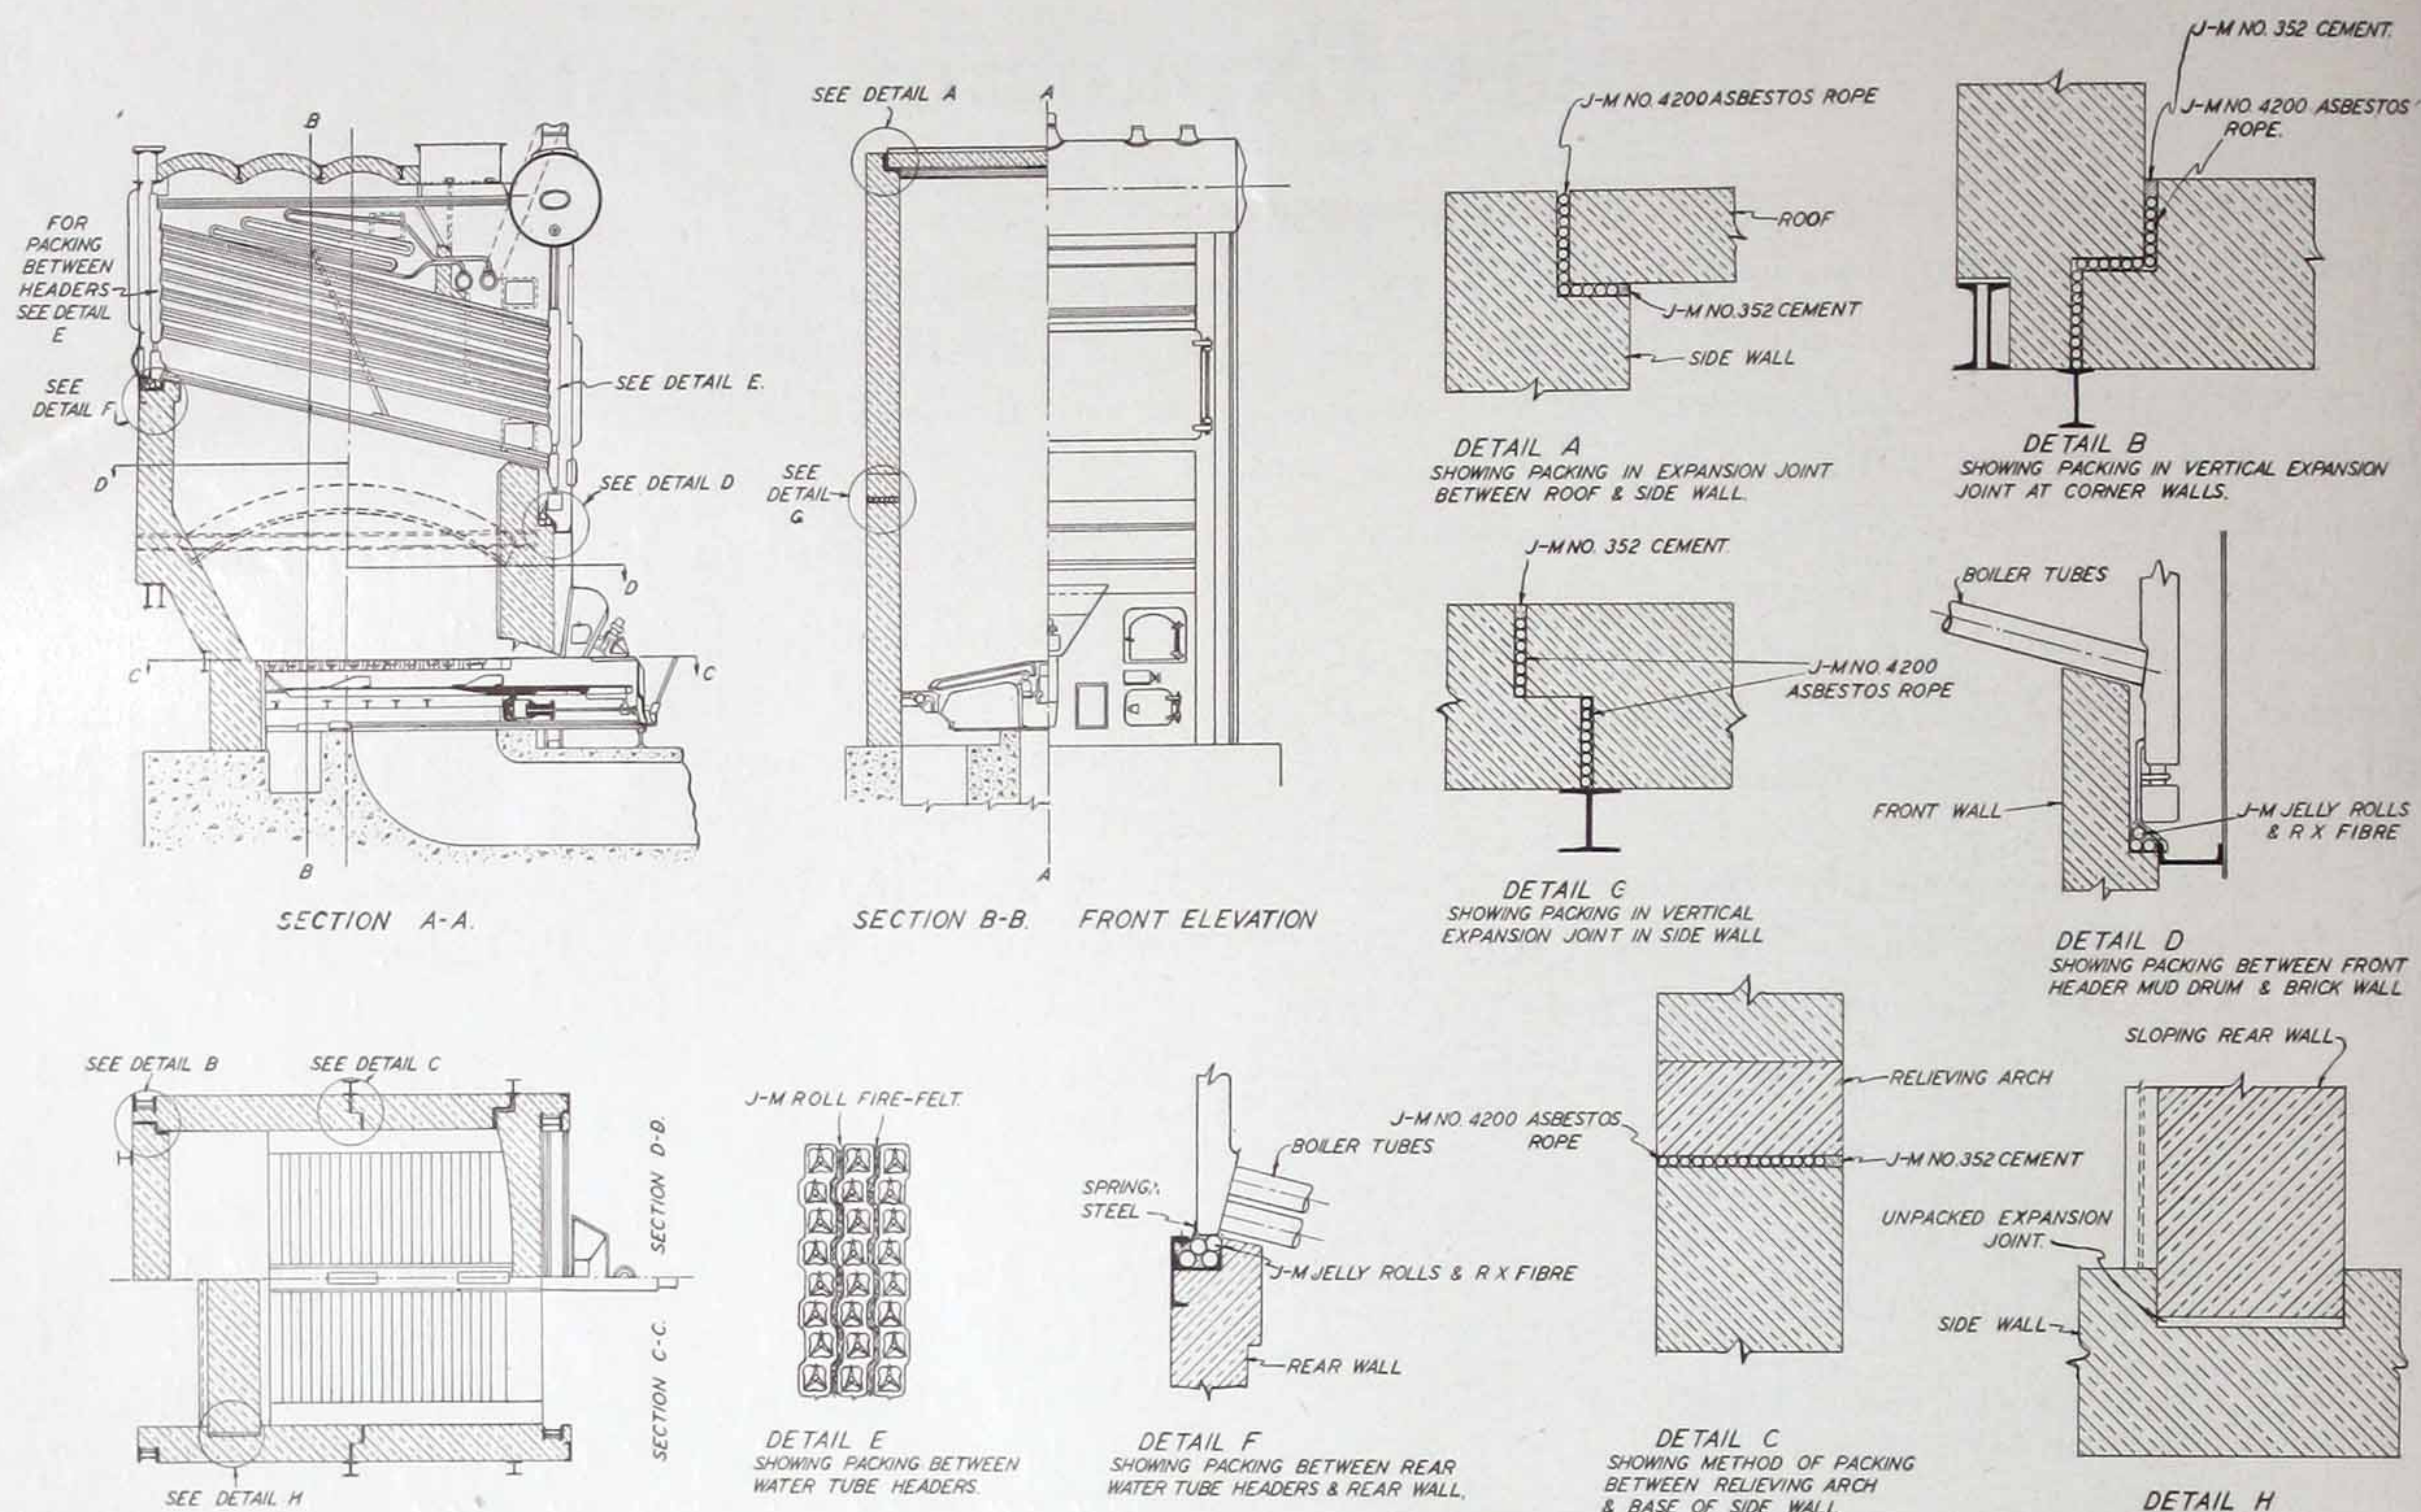
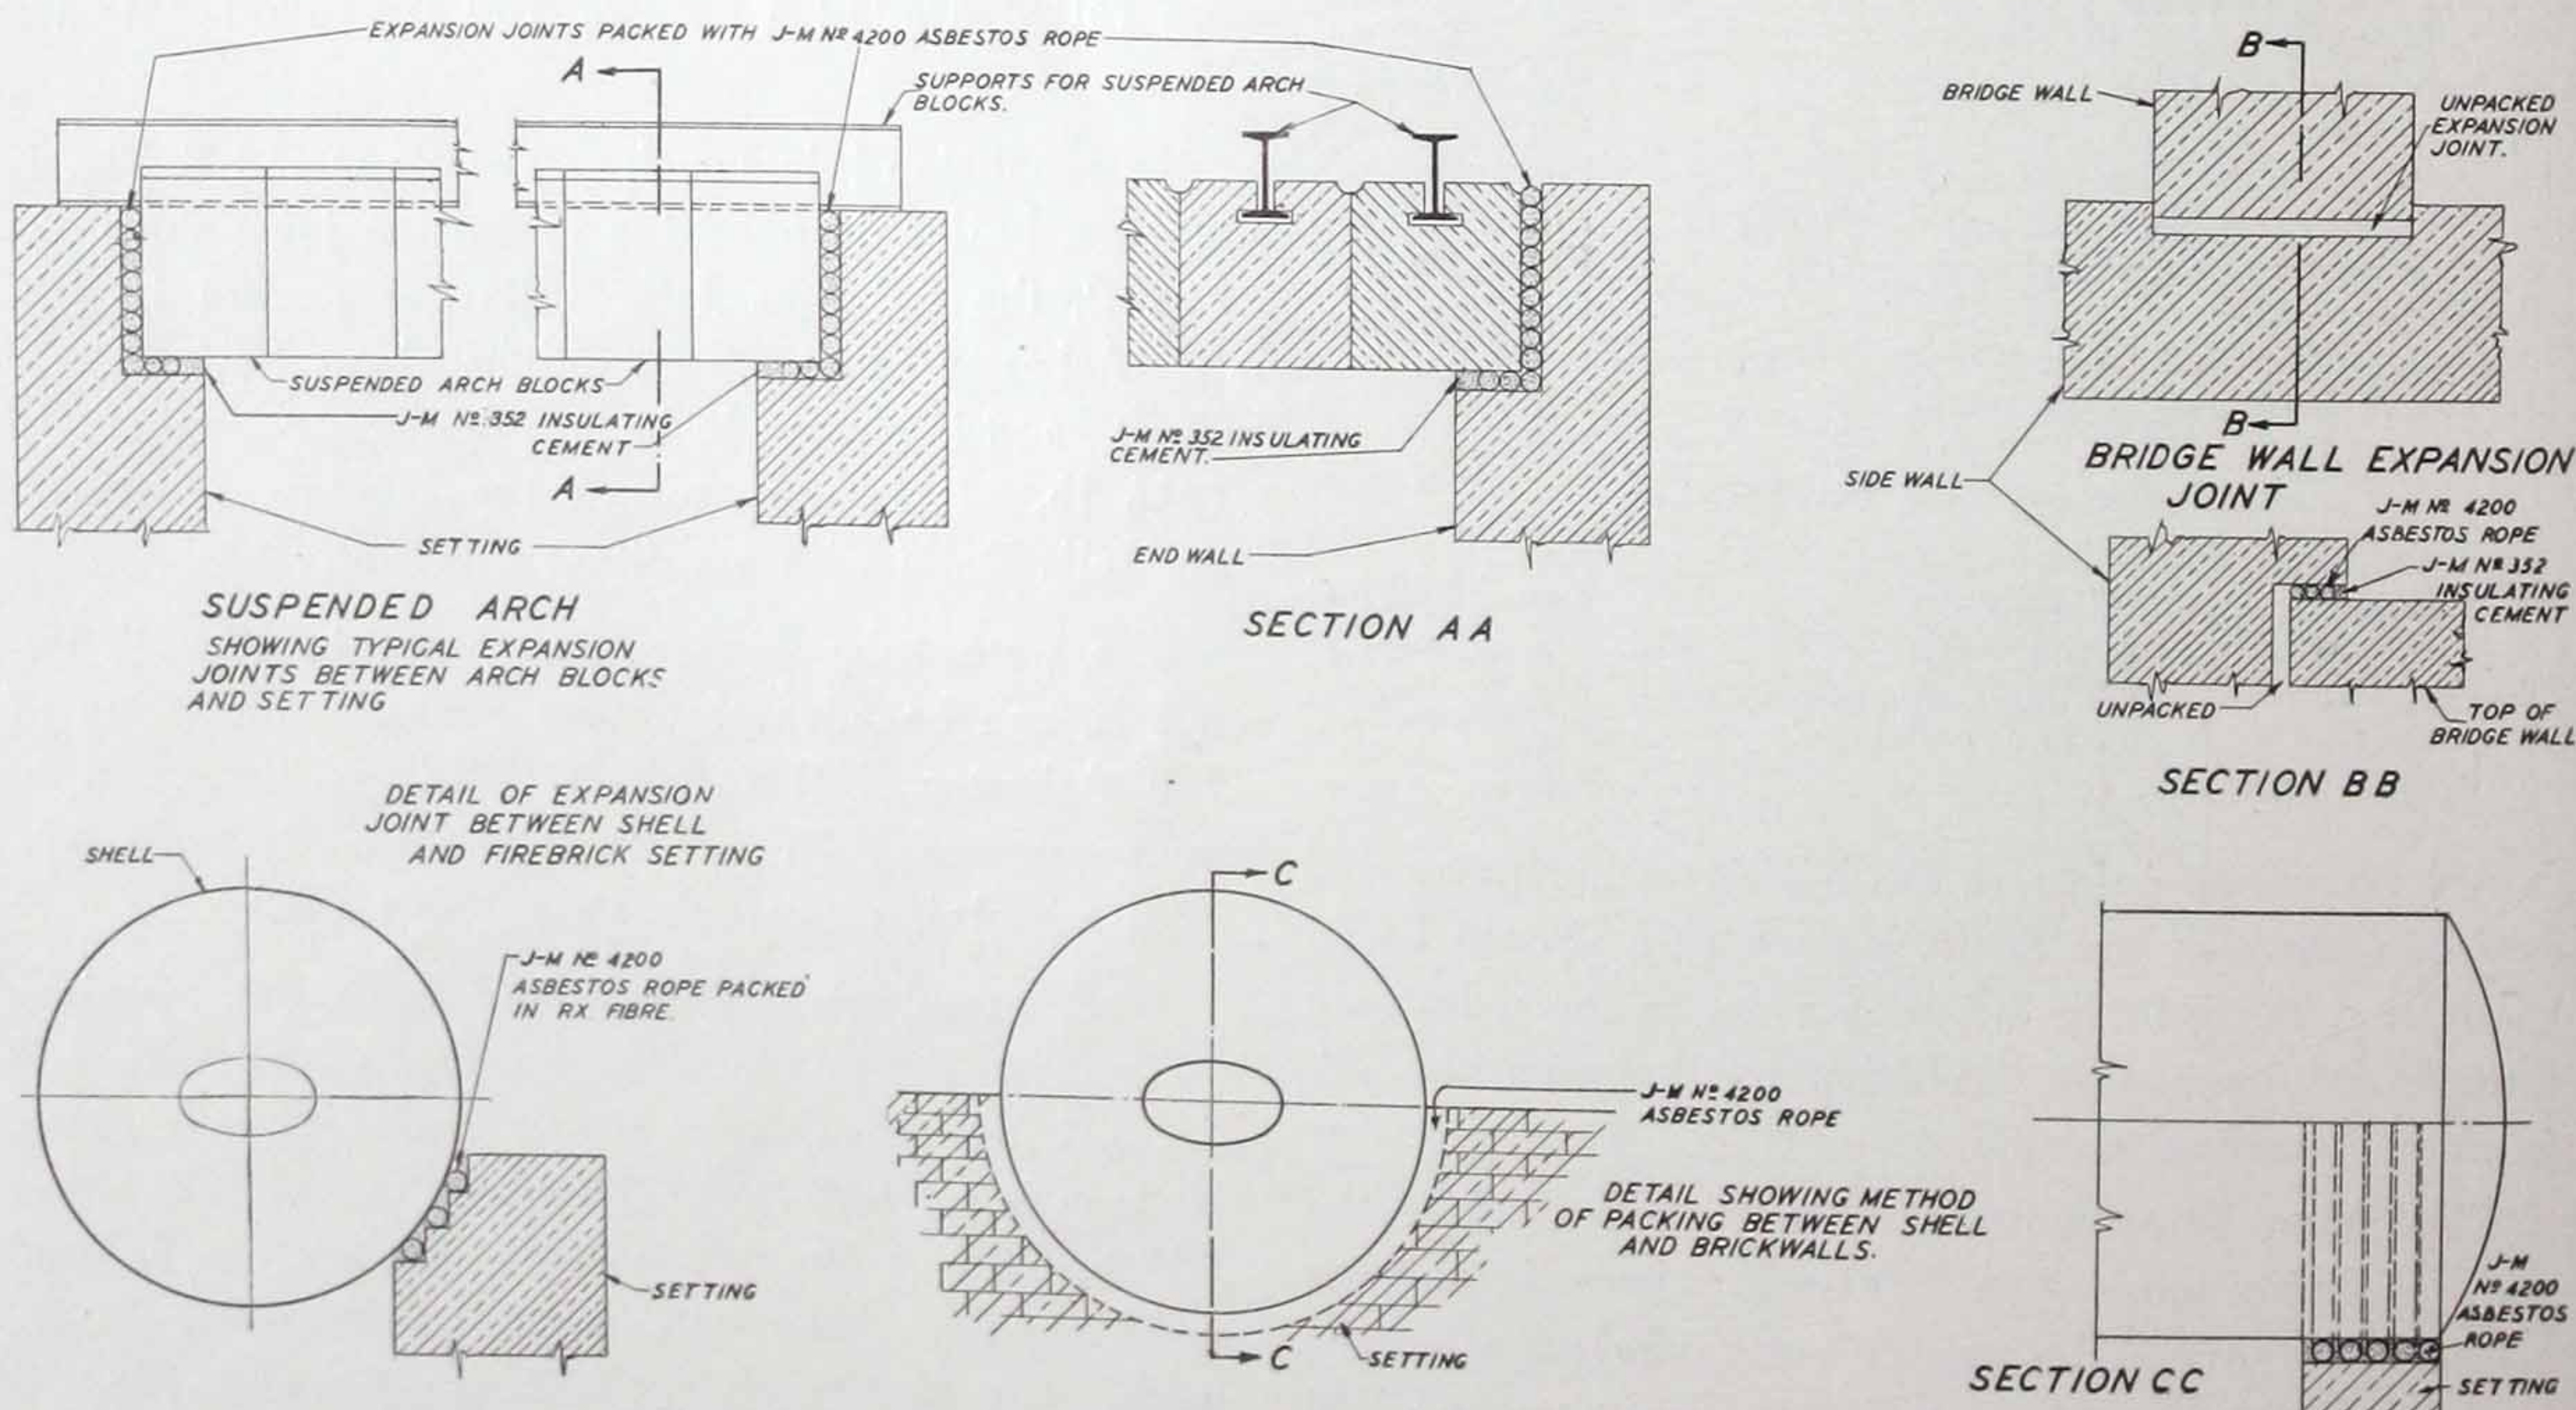

Fig. 1. Boiler Wall Expansion Joint locations and details
Fig. 2. Expansion Joints at Suspended Arch, Bridge Wall and Steam Drum
The major types of expansion joints used in various types of boilers and furnaces as a means of preventing failure of structures are shown in Figs. 1 and 2. These are applicable, in a general way, to almost all boiler and furnace walls. Expansion joints not shown on these drawings and found in practice lend themselves to the same manner of packing as those of the same class, illustrated. The location of expansion joints and the class of boiler settings in which they are found are as follows:
1. Furnace roof and side walls	Fig. 1, Detail A
2. Rear wall and side wall	Fig. 1, Detail H
3. Side walls (vertical joints)	Fig. 1, Detail C
4. Side and end wall	Fig. 1, Detail B
5. Relieving arch	Fig. 1, Detail G
6. Bridge wall	Fig. 2
7. Combustion arch, side and end walls	Fig. 2
8. Steam drum and brick setting	Fig. 2
2. Rear wall and side walls	Fig. 1, Detail H
6. Water-tube header	Fig. 1, Detail E
7. Front water-tube header and setting	Fig. 1, Detail D
8. Rear water-tube header and setting	Fig. 1, Detail F
9. Bridge wall	Fig. 2
10. Combustion arch, side and end walls	Fig. 2
11. Steam drum and brick setting	Fig. 2
1. Boiler shell and brick settings	Fig. 2
2. Side walls (vertical joints)	Fig. 1, Detail C
3. Union of side and end walls	Fig. 1, Detail B
4. Combustion or deflection arch and side walls	Fig. 2
5. Deflection arch and end walls	Fig. 2
In expansion joints such as Details D and F, Fig. 1, and the boiler drum-setting expansion joint shown in Fig. 2, the Asbestos Jelly-Rolls are packed in J-M RX Asbestos Fibre. This weighs about  $12\frac{1}{2}$  lb. per cu. ft., and is packed in bags weighing approximately  $12\frac{1}{2}$  lb. It is used to fill the interstices between the Jelly-Rolls with a resilient material.
The water-tube headers, as shown in Fig. 1, Detail E, can be advantageously packed with strips of J-M Asbestos Roll Fire-Felt. This is furnished in thicknesses of  $\frac{3}{32}$ ",  $\frac{1}{8}$ ",  $\frac{3}{16}$ " and  $\frac{1}{4}$ ", in rolls 3-ft. wide containing approximately 100 sq. ft.